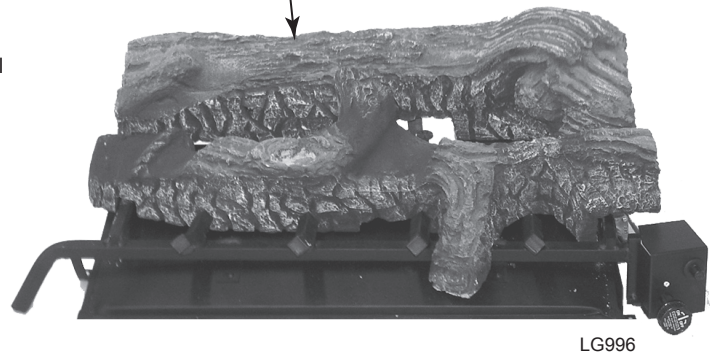

**Figure 34**
1. Place bottom front log (#2) on front of grate. *Figure 34*